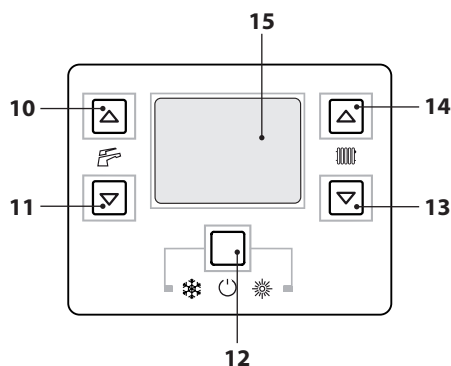
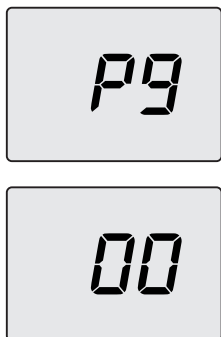
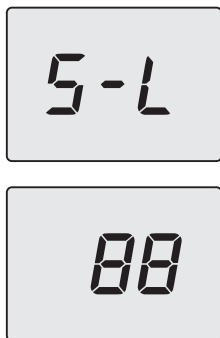

Figure 7.2
Figure 7.4
Figure 7.14
- Enter "programming mode" by pressing keys 12-13-14 together for 10 seconds (Figure 7.2) until the LCD display indicates the letters **P01**, alternating with the value of the parameter, indicating entry in "parameter 01" (Figure 7.3).
- Press key 13 or 14 (Figure 7.2) to scroll the parameters until parameter **P09** that alternates with the value of the parameter, indicating entry in "parameter 09" (chimney sweep **00** = chimney sweep not activated) (Figure 7.4).
- Use keys 13 or 14 (Figure 7.2) to change the status to **dP** (chimney sweep activated in maximum dhw mode) and press 12 to confirm. **dP** will appear on the display alternated with the maximum d.h.w. temperature.
- Press key 14 (Figure 7.2) to scroll the parameters until displaying parameter **P09** (chimney sweep) (Figure 7.4).
- Use keys 14 or 13 (Figure 7.2) to increase or decrease the value. Wait 3 seconds for the gas pressure to stabilise and then read the value on the gas pressure gauge. **Remember to keep the trend upward.**
- Press key 11 (Figure 7.2) for 5 seconds to store the value.
- Press key 10 (Figure 7.2) to calibrate the gas minimum. S-L will appear on the display alternating with the absolute minimum power parameter (Figure 7.14).
- Use keys 14 or 13 (Figure 7.2) to increase or decrease the value. Wait 3 seconds for the gas pressure to stabilise and then read the
- Press key 10 (Figure 7.2) to check the maximum set value and correct it if necessary by following the procedure described above.
- Press key 10 (Figure 7.2) to check the minimum set value and correct it if necessary by following the procedure described above.